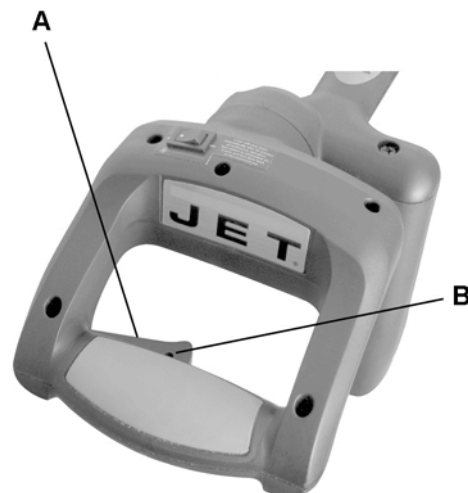

Figure 23
4. Squeeze the *trigger switch* (A, Fig. 23) to start saw.
2. Release trigger switch (A, Fig. 23) and wait for all moving parts to stop before moving your hands and raising the cutting arm.
Depress the trigger switch (A, Fig. 23).
Note: Make the On/Off switch child-proof by inserting a padlock through the hole (B, Fig. 23) in the trigger switch.